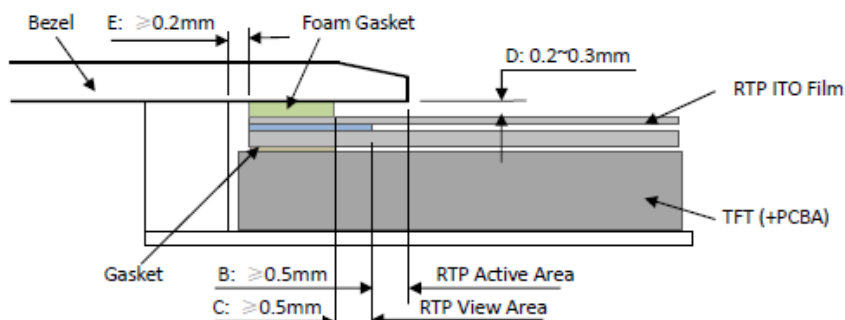

Figure 4
- It should bezel touching the RTP Active Area (A.A.) to prevent abnormal touch.It should left gab  $D=0.2\sim 0.3\text{mm}$  in between. (Figure 4)
- Outer bezel design should take care about the area outside the A.A. Those areas contain circuit wires which is having different thickness. Touching those areas could de-form the ITO film. As a result bezel the ITO film be damaged and shorten its lifetime. It is suggested to protect those areas with gasket (between the bezel and RTP).The suggested figures are  $B\geq 0.50\text{mm}$ ;  $C\geq 0.50\text{mm}$ . (Figure 4)
- The bezel side wall should keep space  $E= 0.2 \sim 0.3\text{mm}$  from the RTP. (Figure 4)
- 为避免面框直接压在动作区 (A. A.) 上造成误动作，面框与电阻触摸屏 (RTP) 之间应留有一定的空隙 $D=0.2\sim 0.3\text{mm}$ 之间. (附图4)
- 设计面框时，要注意用面框保护触摸屏四周的非保证操作区域，因为布线区域在此处形成一台阶，在此区域附近操作时ITO Film变形较大，容易导致ITO损坏而降低寿命。为保护RTP和避免误操作，在RTP与面框之间垫缓冲物 (Gasket)，我们建议设计面框应覆盖动作区的边缘，面框边缘到V. A. 区的距离 $B\geq 0.50\text{mm}$ ；垫圈内边缘到V. A. 区的距离 $C\geq 0.50\text{mm}$ 。 (附图4)
- 在设计面框与RTP组装时，应考虑到面框内侧与RTP外侧的间距 $E\geq 0.2\text{mm}$ 。 (附图4)